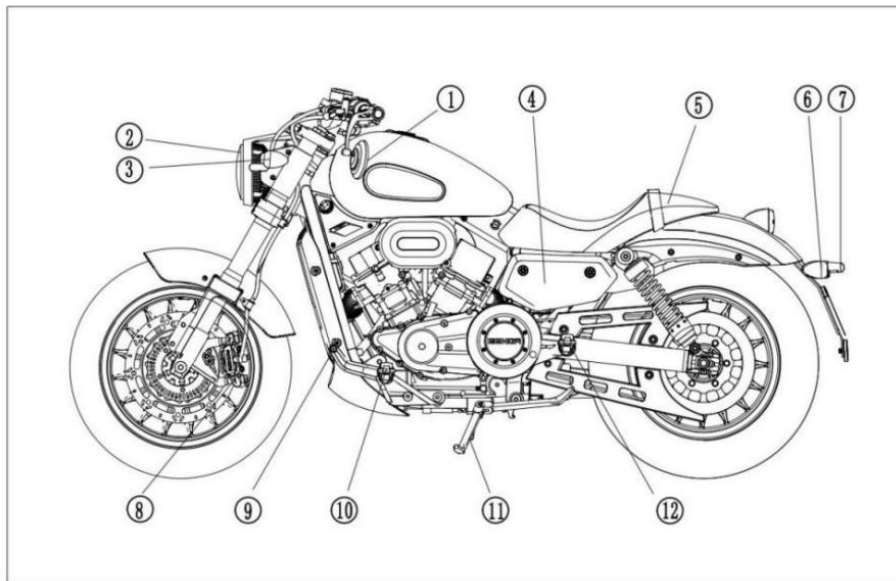

Fig.1
1.2、 Number position (Figure 1)
1. (Fig.1)
- ① L rear mirror
- ② headlight
- ③ FL turn single light
- ④ battery)
- ⑤ cushion
- ⑥ rear license
- ⑦ RL turn single light
- ⑧ front brake caliper
- ⑨ gear lever
- ⑩ FL pedal